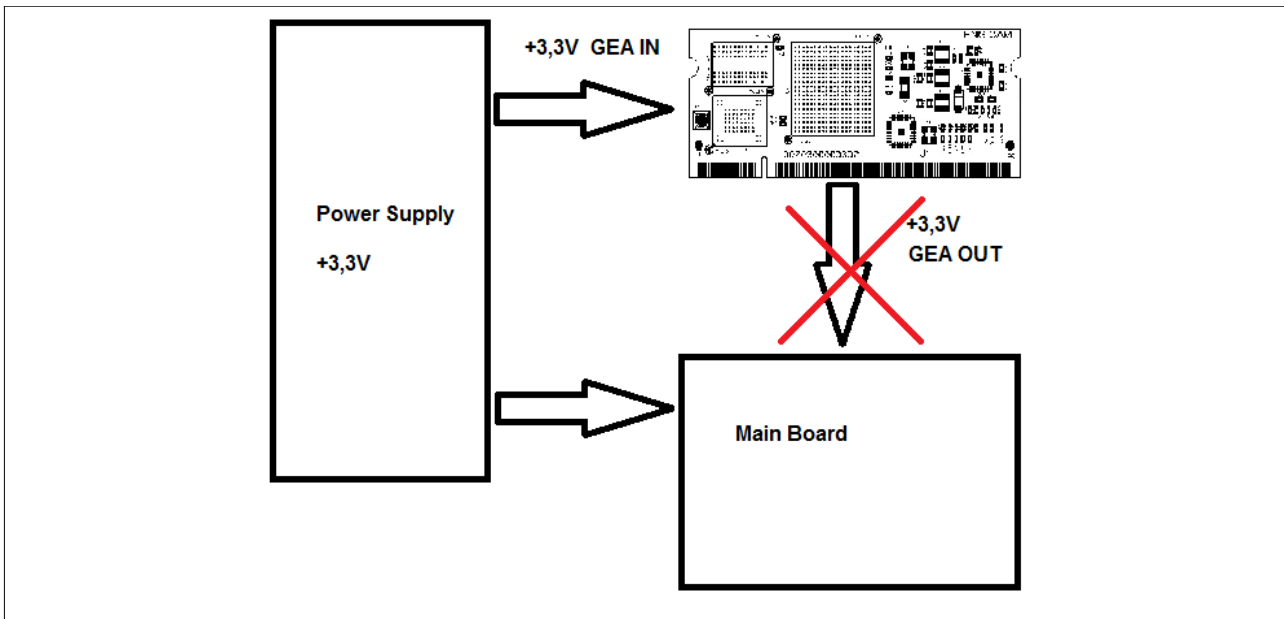

Figure5
- 2) If main circuit's current consumption is in range 0,25 – 05 A or more, we could use the GEA's +3,3V output to power the main board only if the chips on board are compliant with losses shown in the Table 3 . Otherwise it's better to power the main board directly from the main power (see figure 5 below)